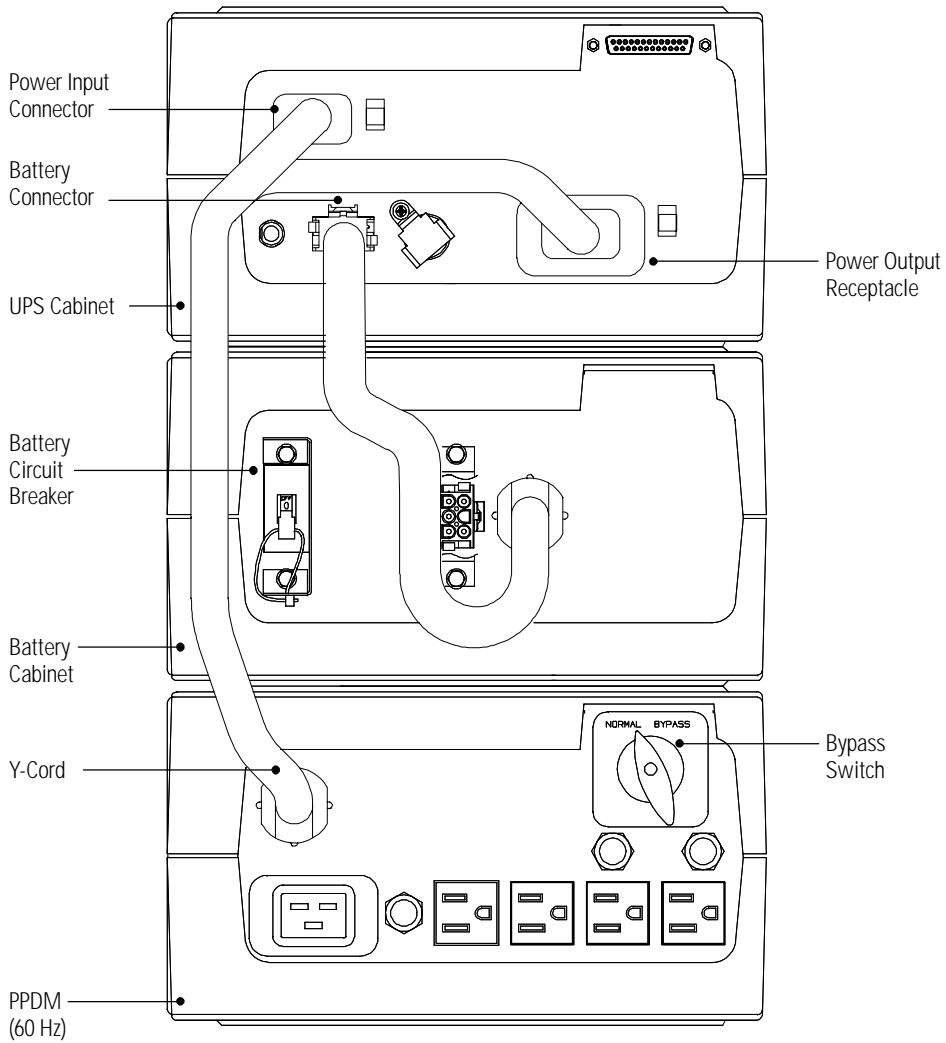

Figure 22. UPS with PowerPass Module Rear Panel
1. Turn the Bypass switch on the PowerPass Module to the BYPASS position (see Figure 22). The PowerPass Module is now powering your equipment from utility power.
4. Press and hold the Output  Off button while plugging the Y-cord of the PowerPass Module into the power connectors on the UPS as shown in Figure 22.
9. Plug the Y-cord of the PowerPass Module into the power connectors on the UPS as shown in Figure 22.